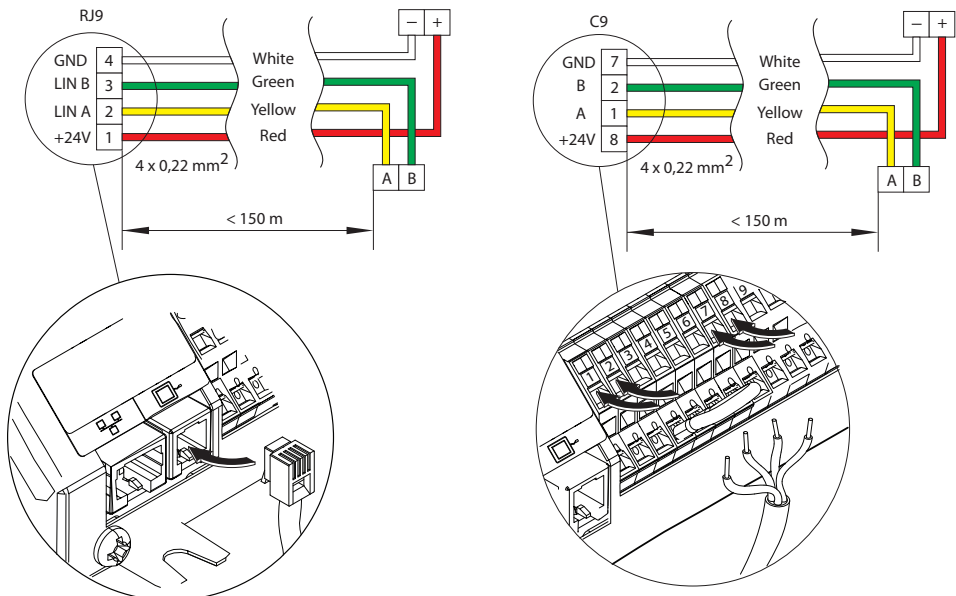

Fig. 32. Control panel wiring diagram
- Control panel (see fig. 32).